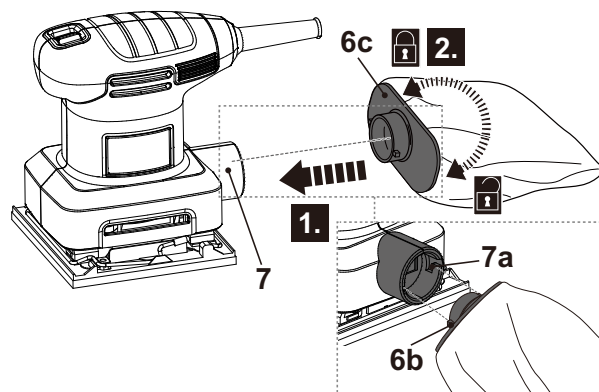

Fig. 9
- > Align the tongues (6b) with the grooves (7a) and then insert the dust bag connector (6c) into the dust extraction outlet (7) all the way to the stop (Fig. 9, step 1).
- > Turn the connector (6c) clockwise to secure it in place (Fig. 9, step 2).
- > Turn the connector (6c) anticlockwise and remove the dust bag assembly (6).